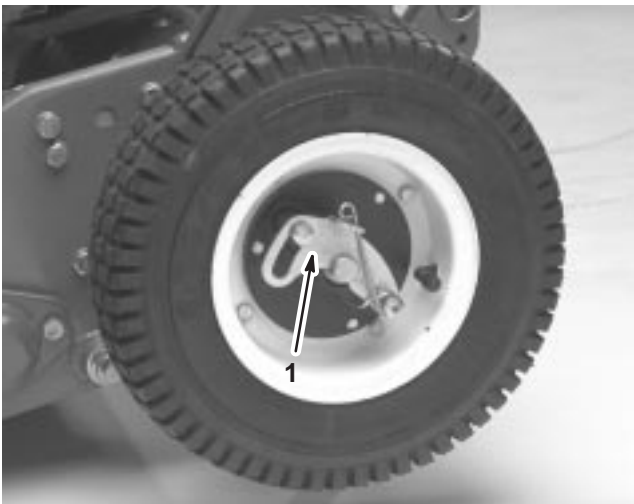

Figure 5
5. Apply Never-Seez to the exposed ends of the axles and slide the wheel onto the axle (Fig. 5).
6. Pivot the wheel locking clip away from center of the wheel allowing it to slide farther onto the axle (Fig. 5).